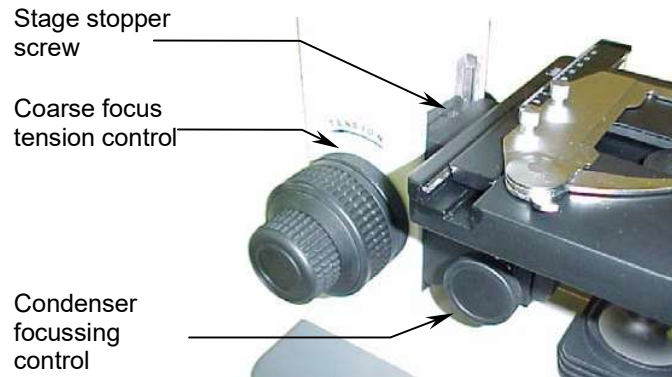

Fig. 6
- a. Loosen the stage stopper screw (Fig. 6) with a 2mm hexagonal key.
- b. Focus on the sample using only the fine focus knob (20) with firstly the 4X objective (4), and 10X objective.
- c. Tighten the stage stopper screw until tight enough for the stage (8) not to move upwards.